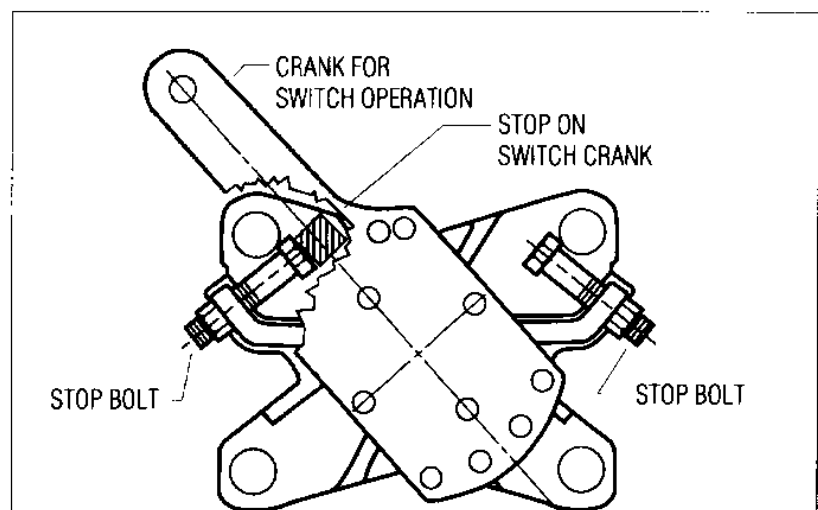

**Fig. 13 Plan View - Typical Offset Bearing (5" B.C. Shown)
Refer to Fig. 13 for Plan View
The bearing of each switch and offset bearing is a greaseless type, Fig. 12 shows the location of stop bolts and switch cranks on all switch bearings. Fig.13 shows the required location of stop bolts (5) and stop crank (9) with a typical location of the adjustable radius crank (8) on the offset bearing. Fig.14 is an elevation view of a switch bearing.